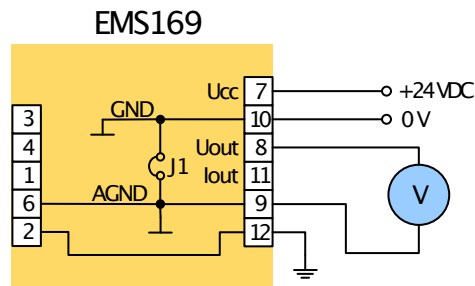

Fig. 7. Functionality test
2. **Functionality test of the signal conditioner.** The correct function can be detected by a simple control. Configure the signal conditioner to bipolar voltage output - $10\text{V} \dots +10\text{V}$ ($J2 = J3 = \text{ON}$, $J4: 2 - 3 = \text{ON}$) and connect the power supply. No sensor is connected to the input. To the output connect voltmeter or amperemeter according to the type of output signal, see Fig. 7.
Notice. The voltmeter is shown in the figure 7. If the current output is used, the current must be also checked.